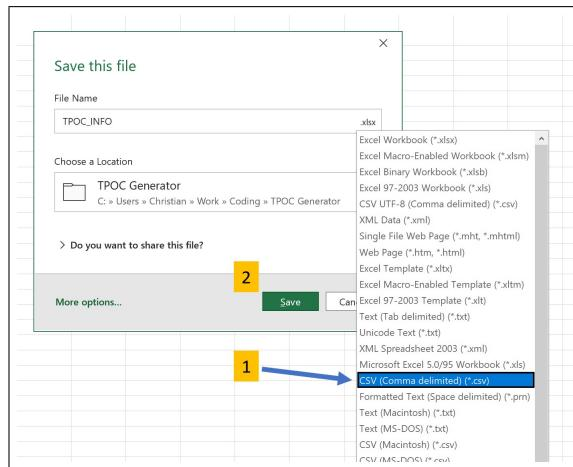

Figure 10: Saving Excel Sheet in CSV Format
2. Select **CSV** from the drop down menu as shown in Figure 10